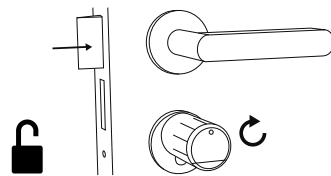
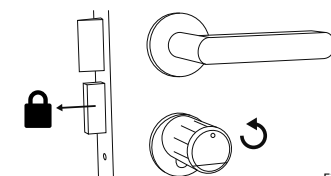

Fig. 82
Fig. 83
- 2 The cylinder is now released and the lock can be opened (fig. 82) or locked (fig. 83).